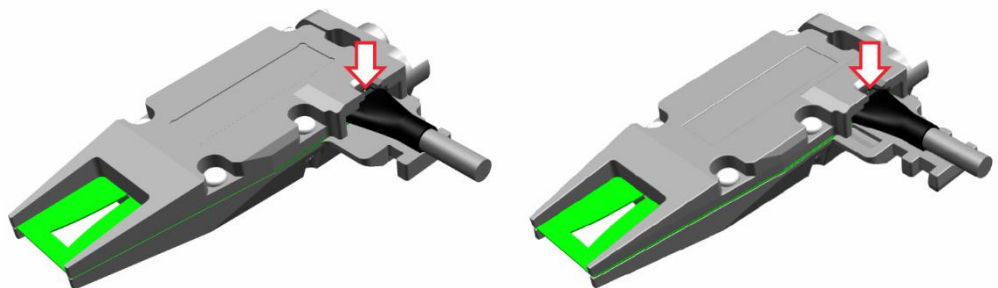

Figure 2-2: Unlocking cable
2. Hold the locking lug down to unlock the cable. See Figure 2-2: Unlocking cable.